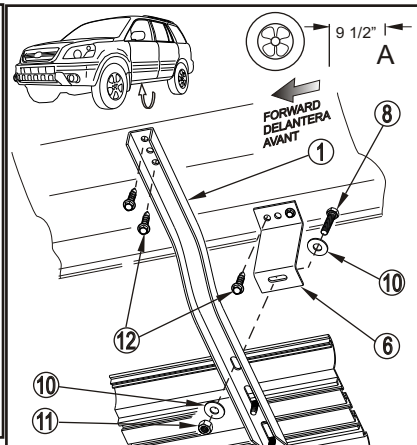
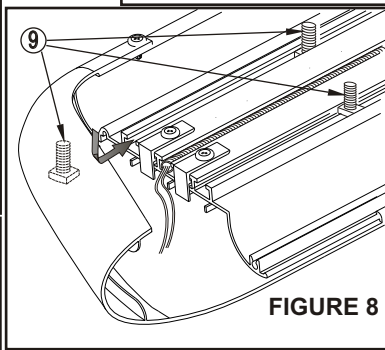
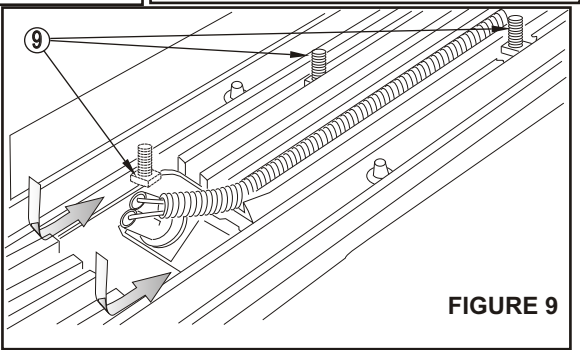
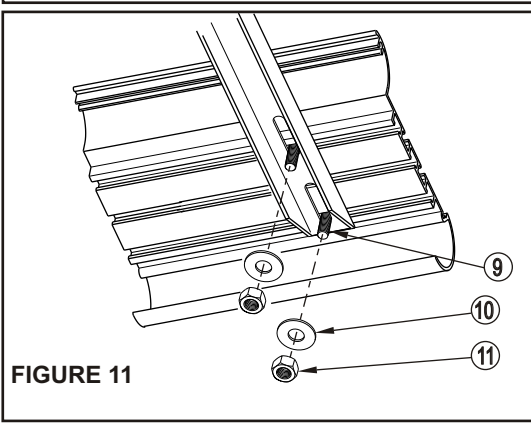

FIGURE 5
FIGURE 8
FIGURE 9
FIGURE 11
- STEP 4.** Insert square head bolts as shown (4 per slot, 8 per Step board/Running board) (See Figure 8 and 9). Attach step board to middle brackets. Align and hand tighten (See Figure 11). Locate position for front and rear hangers. Attach to rocker panel as shown (See Figure 5 and 6). Attach front and rear brackets as shown (See Figure 5 and 6). NOTE: For lighted Step board/Running board, run Wiring harness prior to attaching step board to brackets (Refer to Step 7) (See Figure 8, 9 & 12). Run longer wire harness on passenger side.
- STEP 6.** Attach Step board / Running board to brackets as shown. Align and tighten (See Figure 11). NOTE: For lighted version of Step board, remove plastic cover from each end of under side of Step board. Proceed to Steps 7-8.
- HINT:** Step boards: For Longevity, check rubber seals before installation. Rubber grommets around red and blue wires going into rear sockets, should be inserted and recessed about 1/4". NOTE: Remove bulbs and apply white grease into sockets and replace bulbs. Apply RTV Silicone where lights go into socket. Install lights and run wire loom as shown (See Figure 9). For Aluminum Running board, run wire loom down center as shown (See Figure 8).